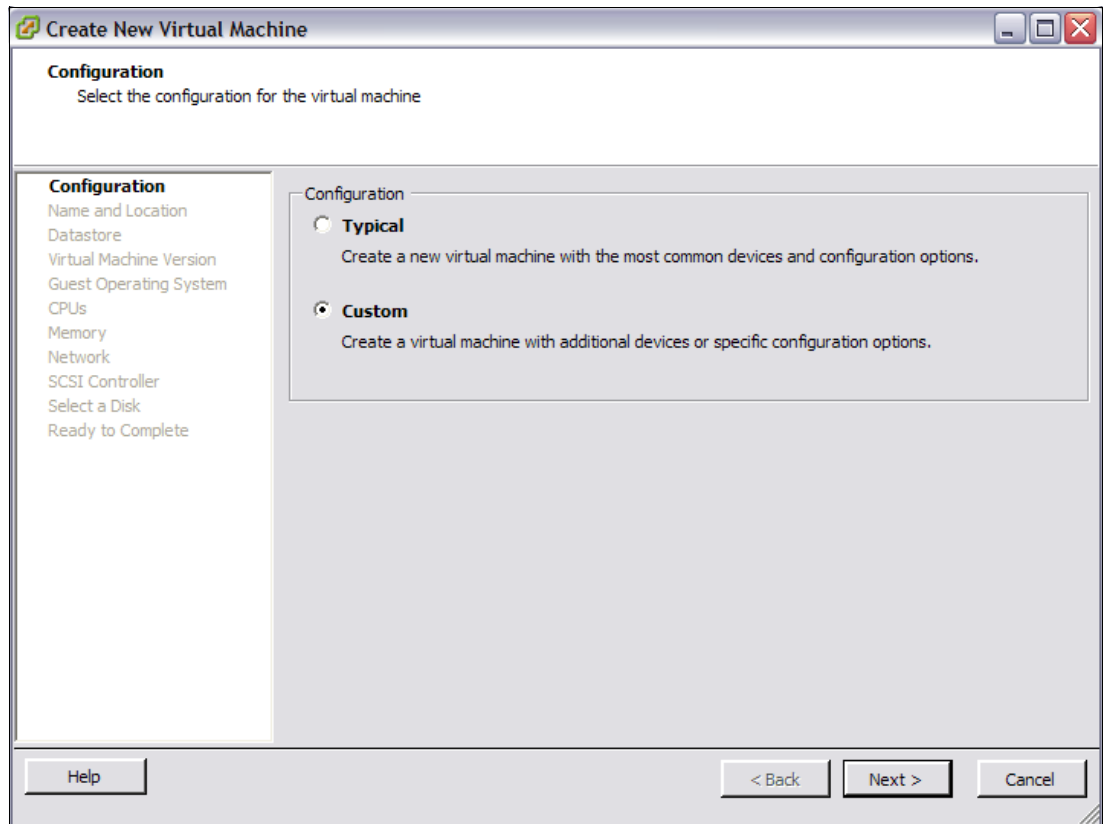

Figure 22-73 Configuration type
3. In the Configuration window, select **Custom** as shown in Figure 22-73 on page 705. Click **Next**.